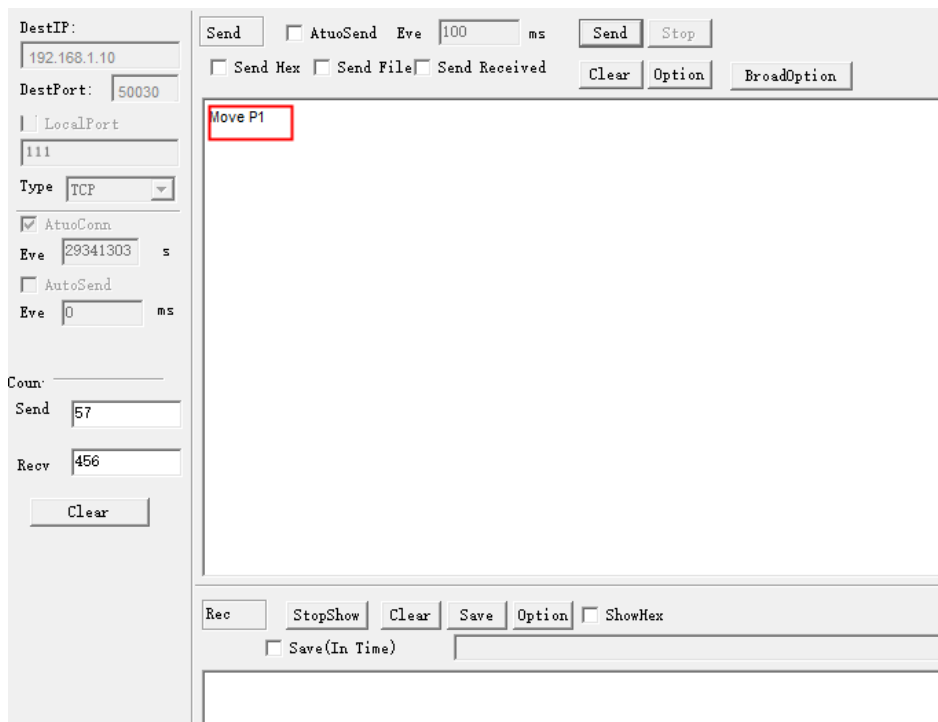

Figure 6.55 Send commands on the client
Step 4 Send **MoveP1** command in the sending section of the client, as shown in Figure 6.55.